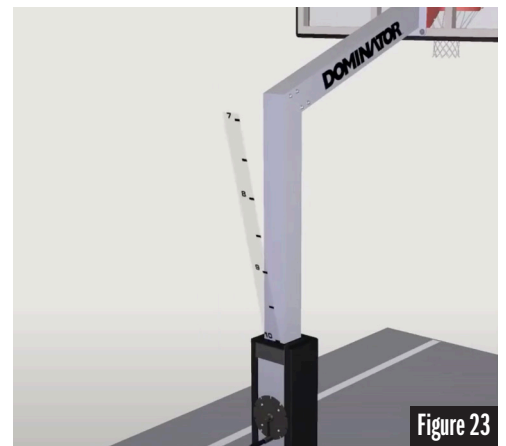

Figure 23
**STEP 14:** Add the Height Guide Decal (Part G) to the pole on the crank side with the 10' mark lined up with the top of the black joint cover. See Figure 23.